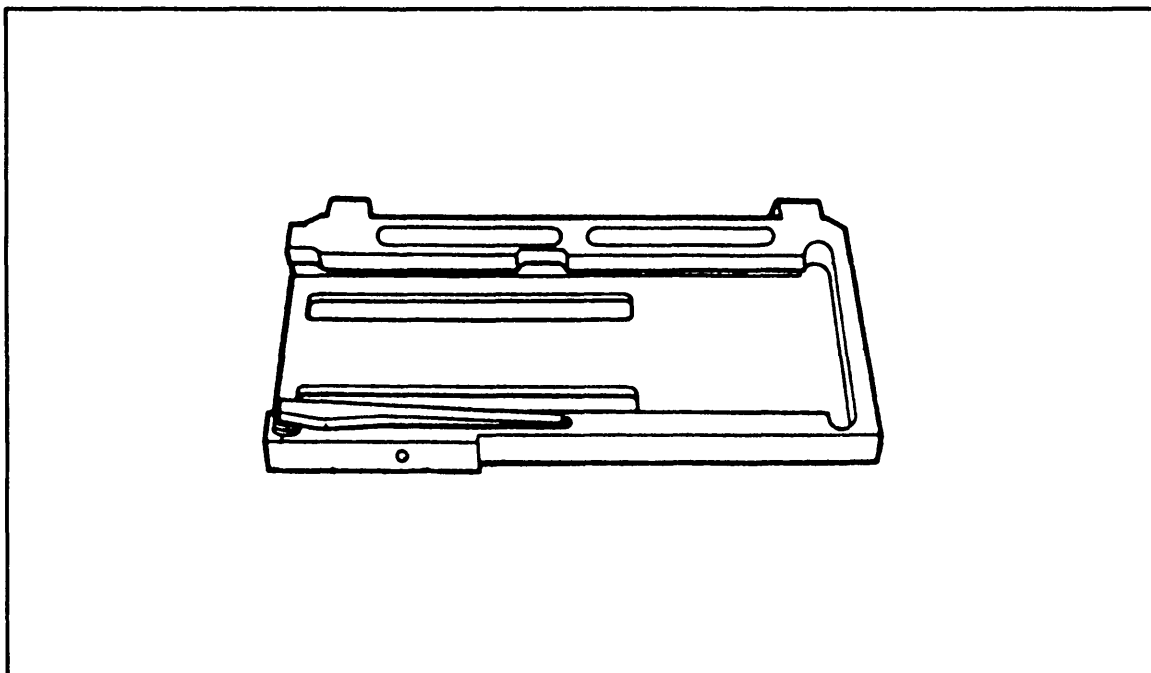

Figure 2-9. Feed tray.
- (b) Take out the feed tray by lifting it straight up (Figure 2-9).